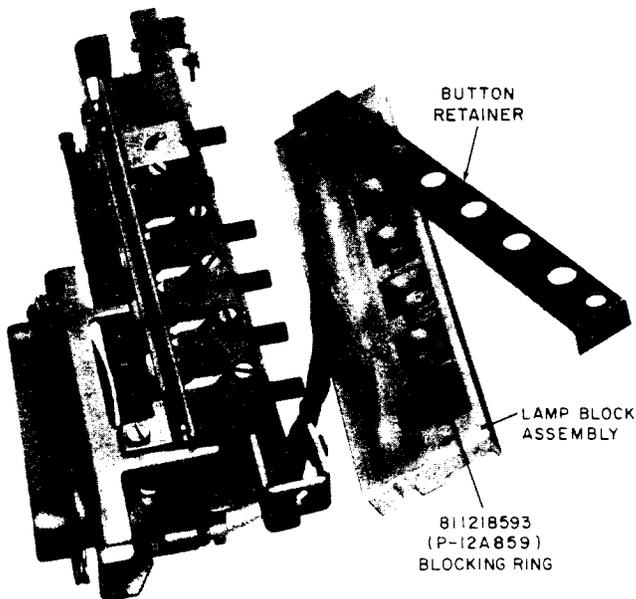

Fig. 12—Blocking Ring Installed in 590 or 650 Series Keys
(1) Remove lamp block assembly from key (Fig. 12).
(2) Remove button retainer.